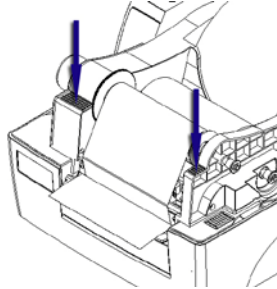

Figure 2.3.5
- 4) Press down the ribbon holder until it is locked, then close the top cover (see figure 2.3.5);